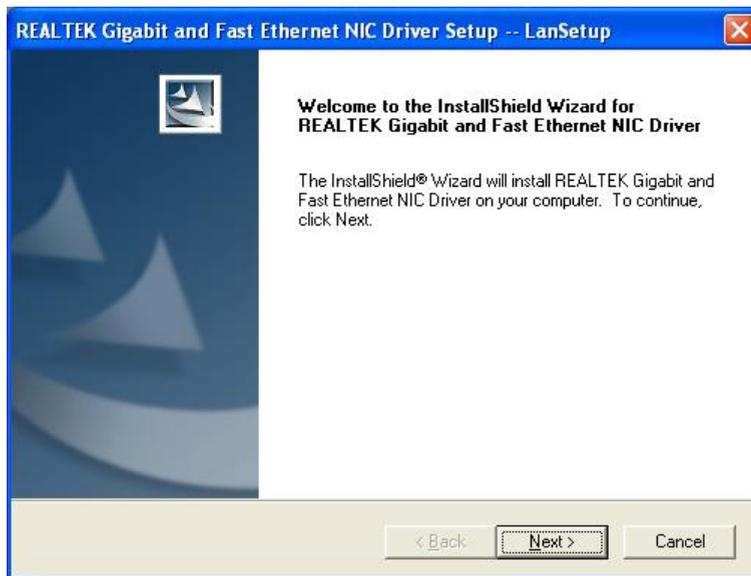

Figure 7-21: LAN Driver Welcome Screen
Step 4: Once the **Setup** icon is double clicked, a **Welcome** screen shown in **Figure 7-21** appears.